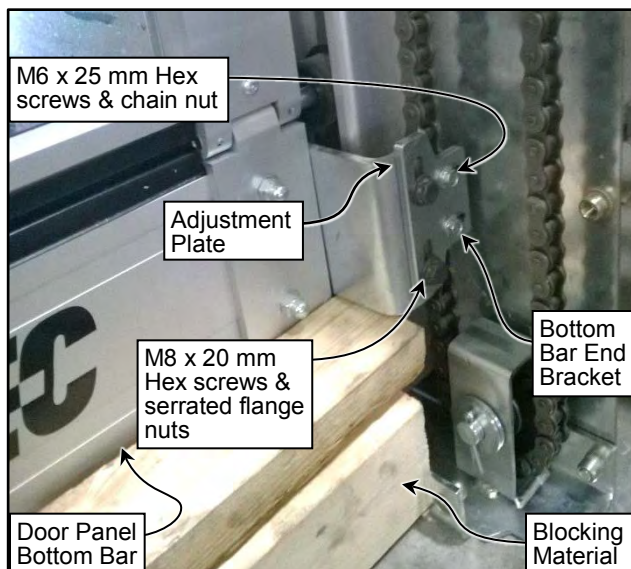
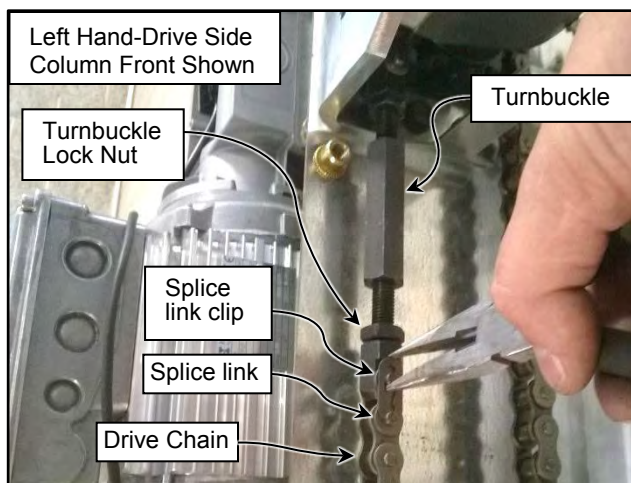
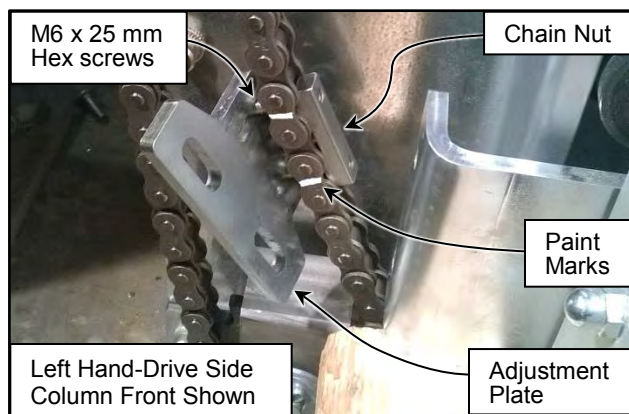

Figure 39
Figure 40
Figure 41
- Block up the door panel so it is fully supported in the closed position as shown. (See Figure 39)
- Disconnect the chain from the bottom bar end bracket by removing the M6 screws & chain locknut. Remove the drive chain by taking out the splice link. (See Figure 39, Figure 40, & Figure 41)